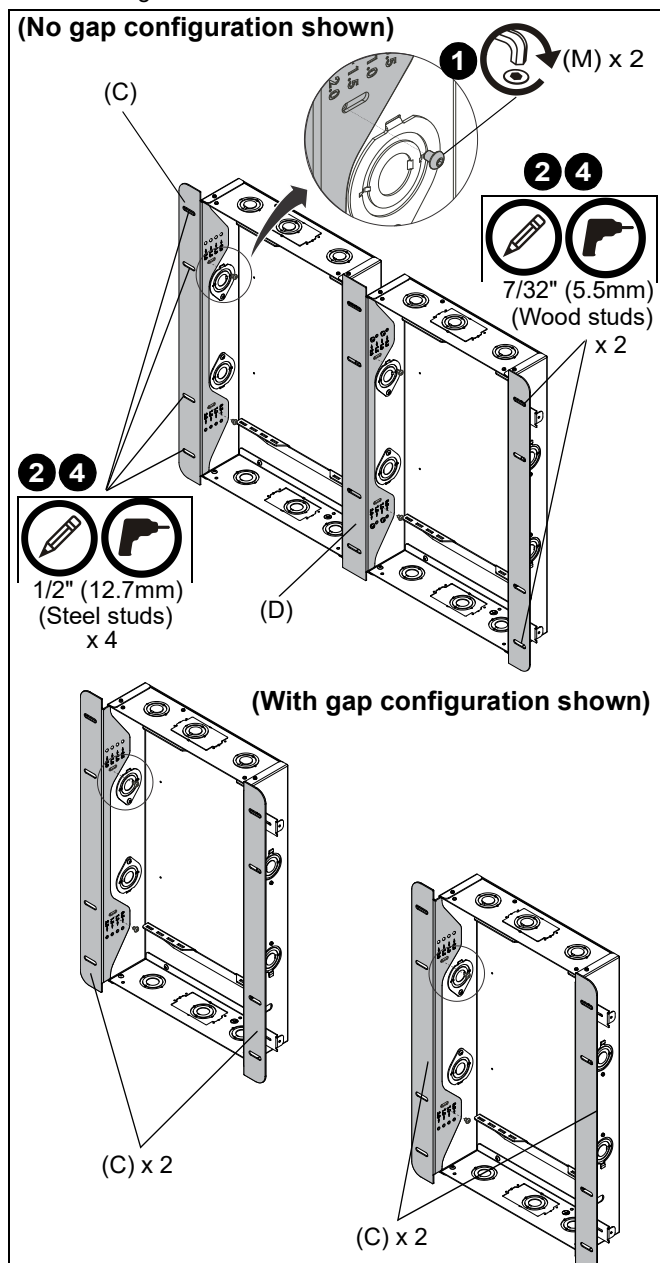

Figure 2
1. Use two #10-24 x 1/4" button head cap screws (M) to secure each side flange (C) and saddle flange (D) to installed boxes. Do not tighten screws at this point. (See Figure 2)
4. Drill a hole at each marked location. (See Figure 2)